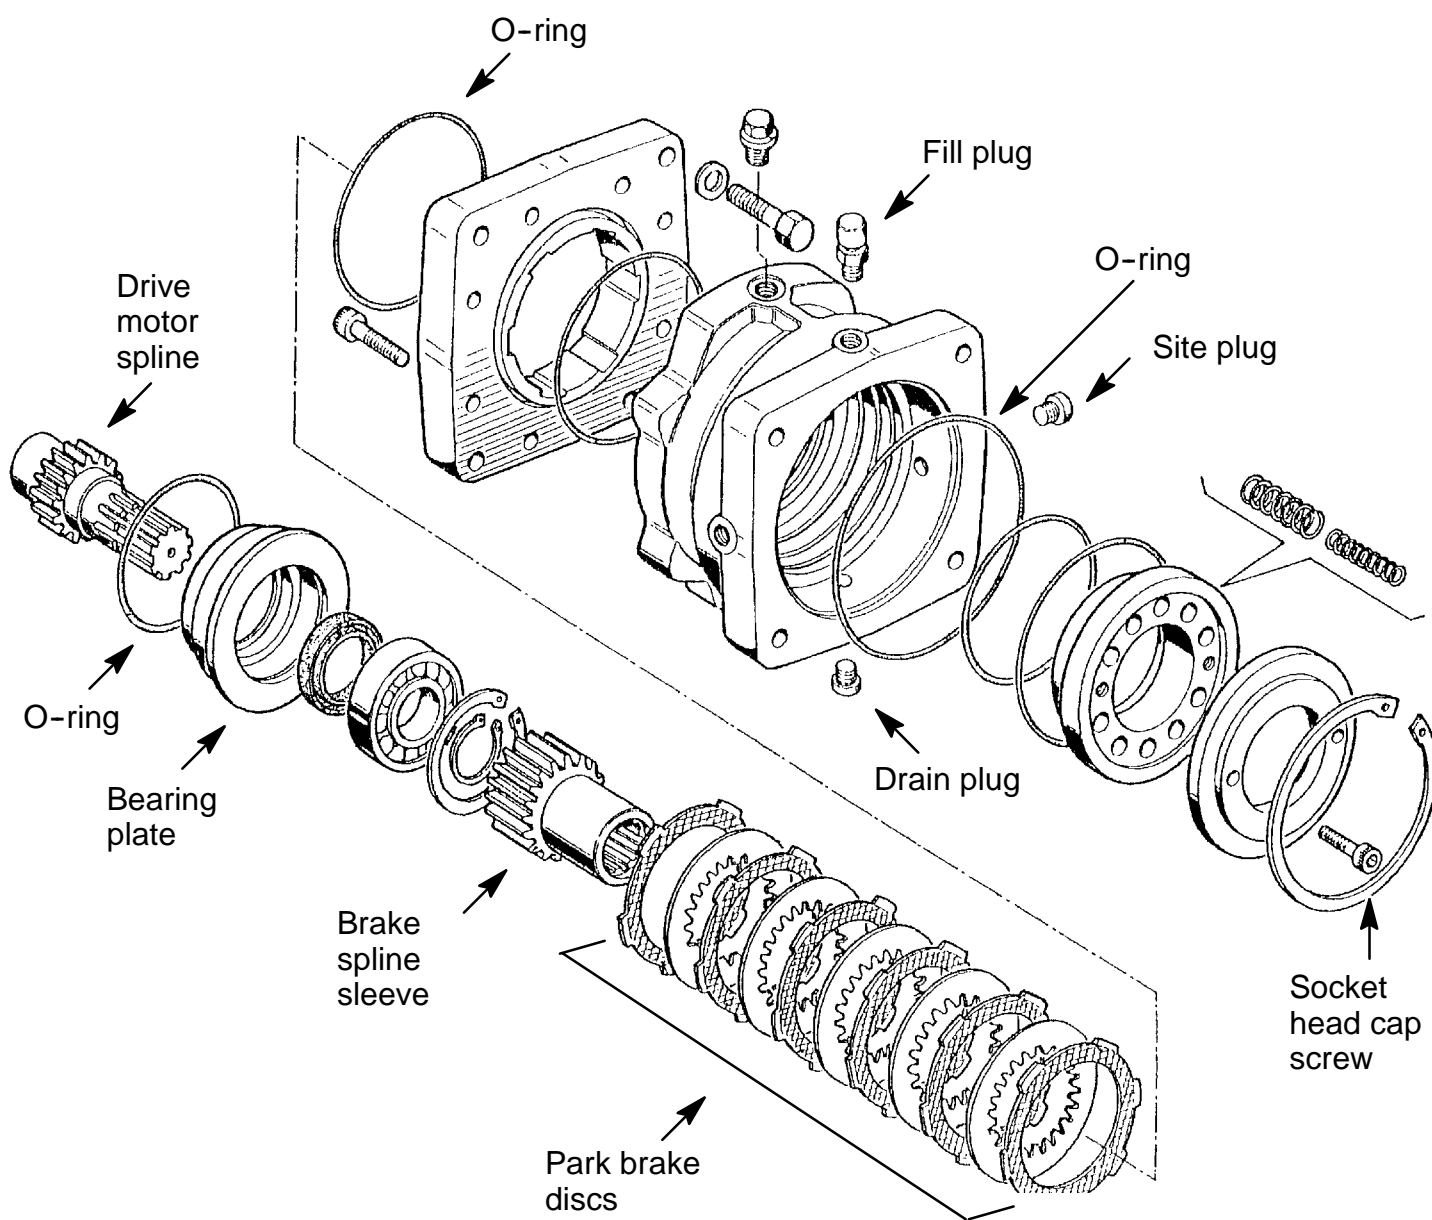

FIG. 2 - Parking Brake Assembly
14. Place a drain pan under the brake unit. Remove the drain plug on the bottom of the brake housing. Drain the brake lube into the pan. *(Refer to FIG. 2)*
15. Remove the four park brake bolts. The stub shaft will also need to be removed from the differential if it did not stay with the brake. **DO NOT disassemble the park brake--it will need to be intact for inspection upon return to the factory.** *(Refer to FIG. 2)*
(Refer to FIG. 2)
2. Carefully remove the bearing plate by placing the drive side of the park brake assembly flat on a horizontal surface and carefully pull the plate up and out of the casting--exposing the park brake disks. There are 2 types of disks, the first is bronze coated and has ears that fit into the outer grooves. the second type disk is a spacer that fits on the center spline. Check for misplacement of the disks. Reinstall the bearing plate and stub shaft into the park brake casting. *(Refer to FIG. 2 and 3)*
3. There are two O-rings and a stub shaft located on the differential side of the brake. Lubricate the O-rings with clean oil. Run a thin layer of Ultra blue (4) outside of the large O-ring and around the face of the brake. *(Refer to FIG. 2 and 3)*
C. Rotate the other wheel slowly and FEEL the spline sleeve back into the brake until it slips into the brake disc. (Refer to FIG. 2 and 3)
7. REMOVE THE TWO SOCKET HEAD CAP SCREWS. (Refer to FIG. 2 and 3)
8. Inspect the drive motor shaft seal for any damage. (Refer to FIG. 2 and 3)
9. Lubricate the large O-ring and place it into the mating face of the brake. Insert the drive motor spline STRAIGHT INTO THE SPLINE SLEEVE of the brake. This is important to avoid damage to the brake plates. The motor should slide all the way to the brake face. If not--go back to step 20. **DO NOT FORCE THE MOTOR ONTO THE PARK BRAKE WITH THE HARDWARE.** (Refer to FIG. 2 and 3)
10. Use the thread adhesive (5) on the threads and tighten to 47 - 61 ft lb (64 - 83 Nm).
12. Add the special oil (3) to the level of the center plug on the park brake (1). **DO NOT USE ANY OTHER TYPE OF OIL.** (Refer to FIG. 2)